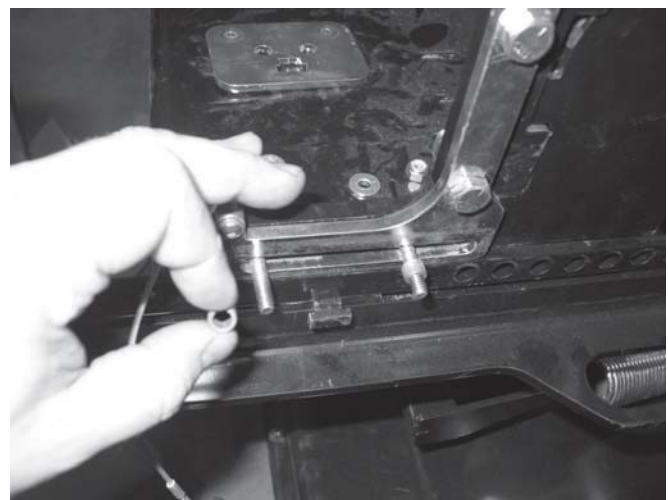

Figure 22 Install spacers on 1/4" bolts
24. Install 1/4" inner dia x 1/4" long spacers on each of the 1/4" bolts making sure that the spacers are fully engaged in the slot of the latch assembly. See Figure 22.